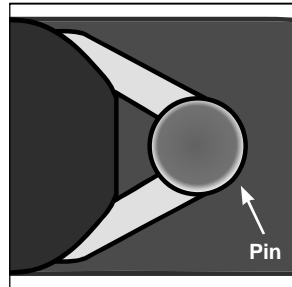
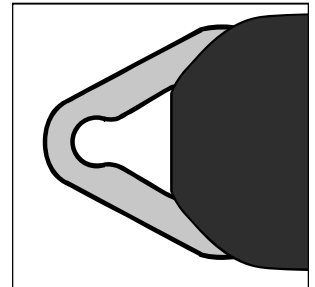
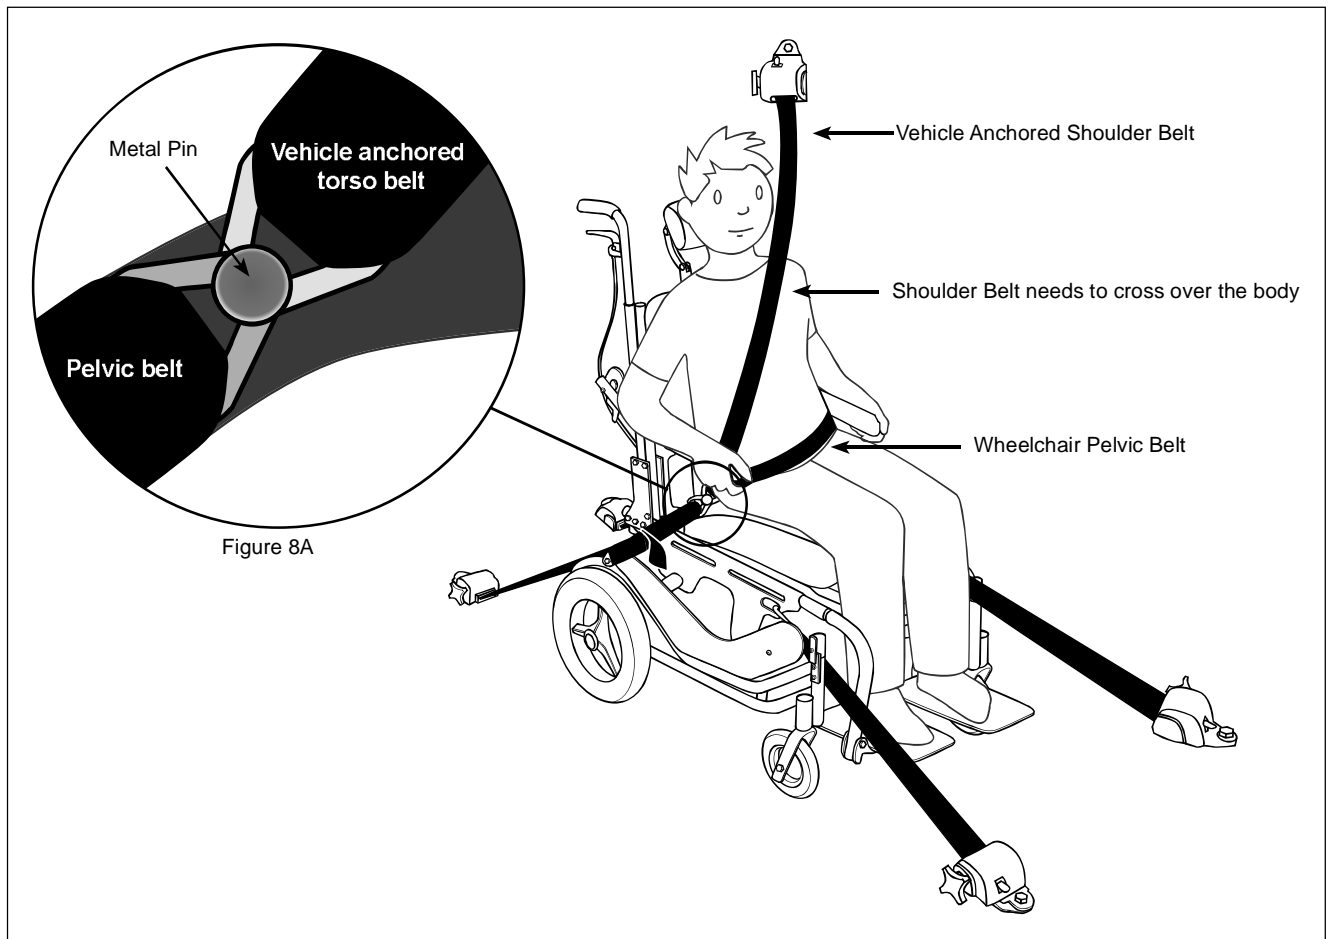

Figure 6
Figure 7
Figure 8
The pelvic belt has been designed to accommodate use on either side of the vehicle. Each side of the belt has a metal pin (Figure 6) which is used to secure the shoulder belt.
3. Attach the clip of the vehicle-anchored upper shoulder belt (Figure 7) onto the metal pin of the pelvic belt restraint (Figure 8A) on the opposite side so that the shoulder belt crosses the body of the wheelchair occupant as shown in Figure 8.
Standard metal clip (Figure 7) at lower end of should belt used to connect to pin/bushing (Figure 6) on pelvic belt.